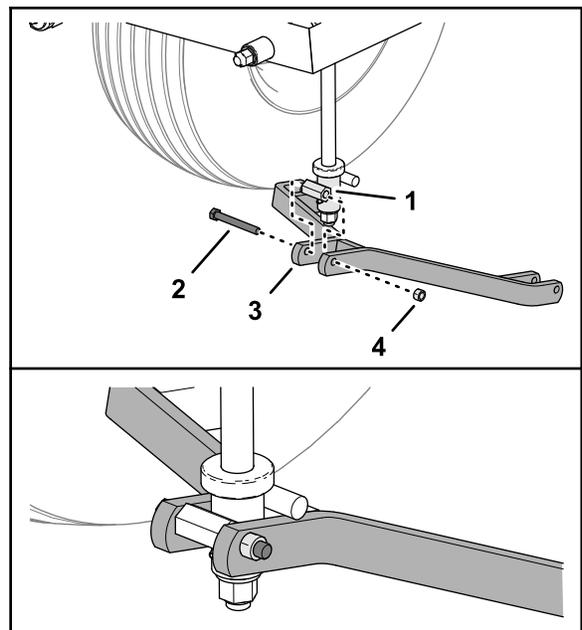

Figure 15
- Align the holes in the drawbar with the holes on the pivot housing of the lift bail (Figure 15).
- Assemble the drawbar to the lift bail (Figure 15) with a capscrew (1/2 x 4 inches), and locknut (1/2 inch)